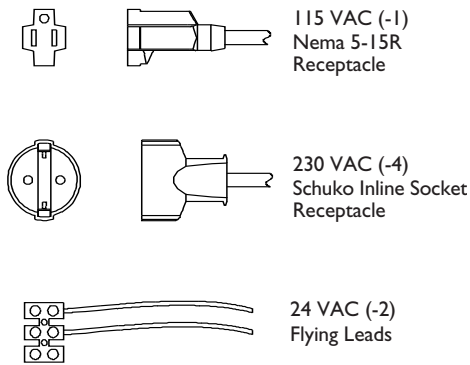

FIGURE 10 Camera Connections
**Installing a 115 volt camera** into the HS9385-6 housing simply requires the camera's line cord to be plugged into the NEMA 5-15R receptacle provided. See FIGURE 10.
**Installing a 24 volt camera** into the HS9385-2 housing simply requires the two flying leads be attached to the camera's terminal block. See FIGURE 10.
**Installing a 230 volt camera** into the HS9385-5 housing simply requires the camera's line cord to be plugged into the *Schuko* inline receptacle provided. See FIGURE 10.